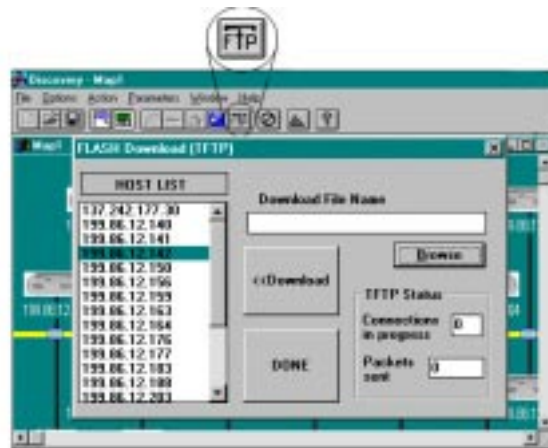

Figure 9-4. Flash Download (TFTP)
1. Click on the **TFTP** icon (fourth from right). The "Flash Download (TFTP)" menu appears (Figure 9-4).